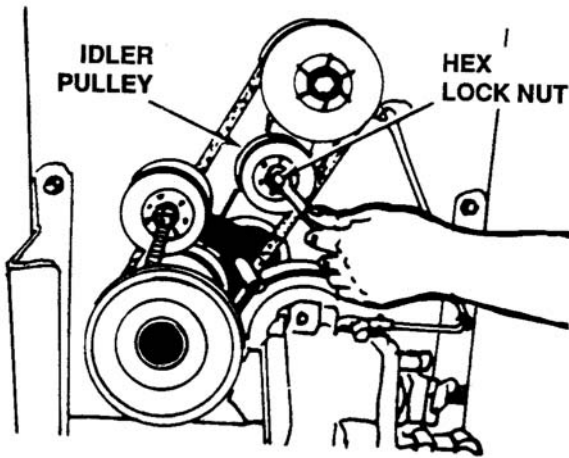

Figure 7-17. Idler Pulley Hex Lock Nut
9. Remove the idler pulley by removing the hex lock nut. See Figure 7-17.